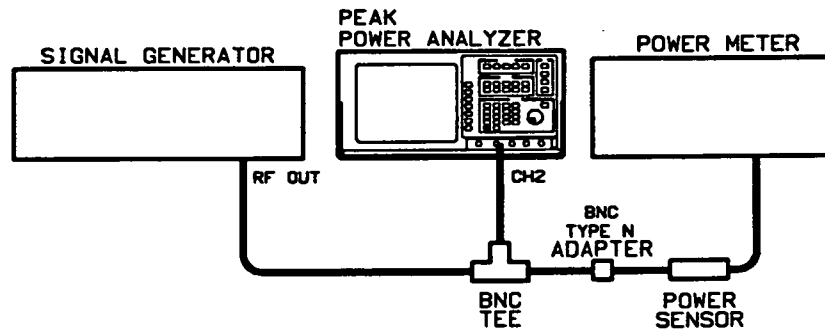

Figure 1-6. Checking Bandwidth Equipment Setup
1. Connect the equipment as shown in Figure 1-6.